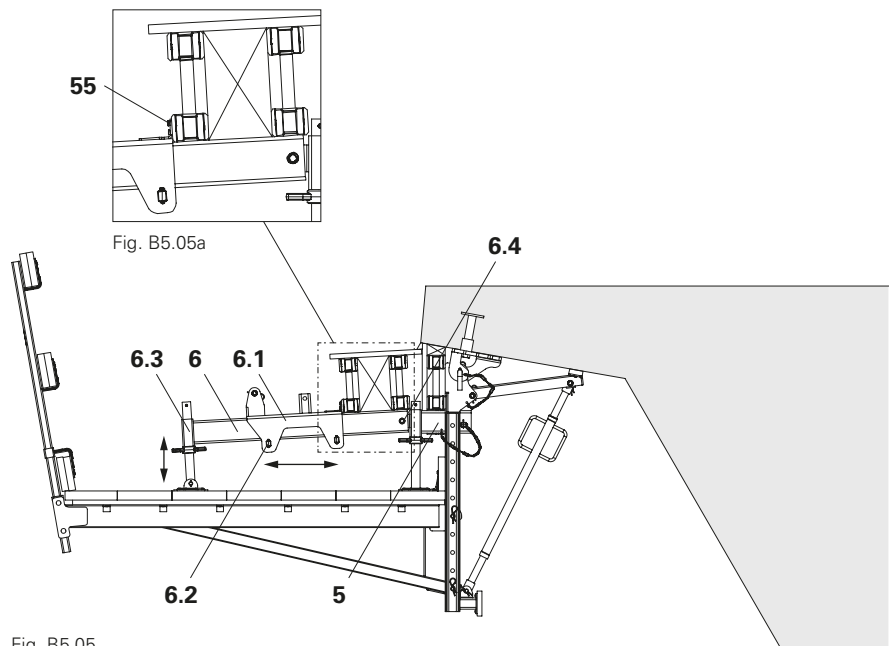

Fig. B5.05
1. Fix Formwork Support VGK (6) to Formwork Fixing-2 VGK (5) with bolts (6.4).
3. Fasten the bottom formwork to the guide carriage (6.1) with 2x Wood-Screws 6x60 SK-TX30 HPI (55).
5. Fix both wedges (6.2) on the guide carriage (6.1) using a sledge hammer (5 kg). (Fig. B5.05 + Fig. B5.05a)